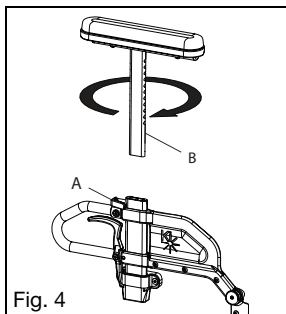

Fig. 4
- Pull the height adjustment lever (Fig. 4:A) and remove the upper T-Arm assembly (Fig. 4:B).
- Close the height adjustment lever (Fig. 4:A) to secure.